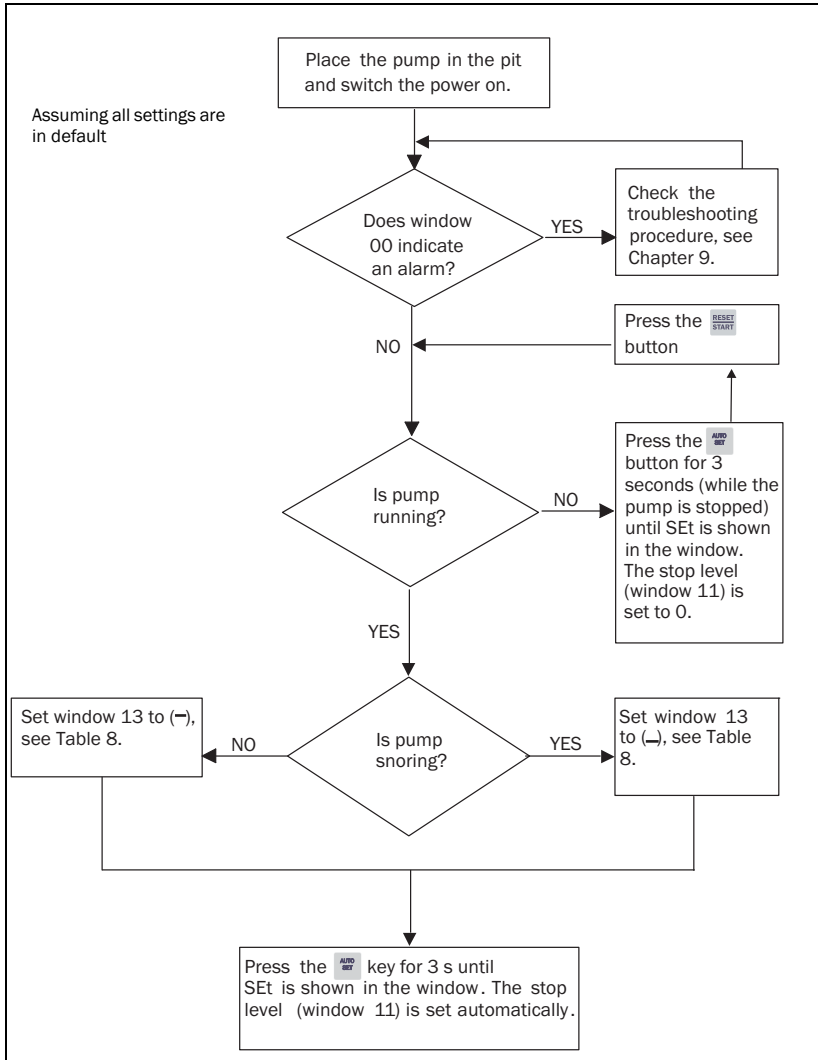
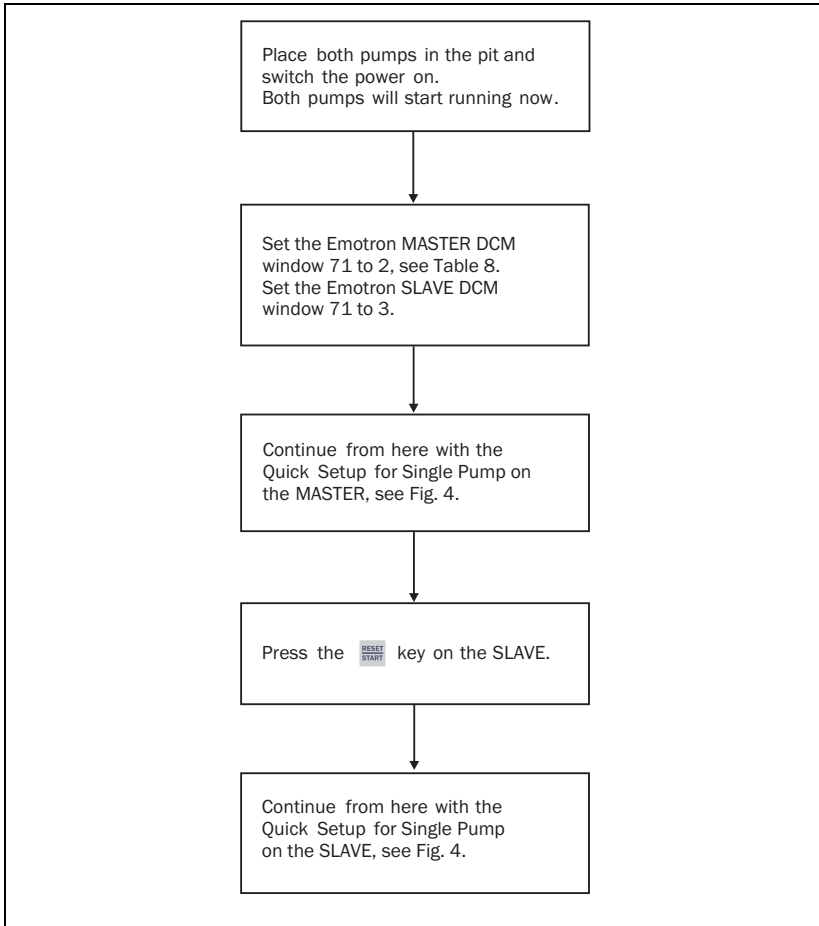

Fig. 4 Quick setup for single-pump system (the pump will start and stop during setup)
Fig. 5 Quick setup for dual-pump system (the pumps will start and stop during setup).
3. Follow Quick setup - flow chart Fig. 4, page 13 for single-pump system and Fig. 5, page 14 for dual pumps.